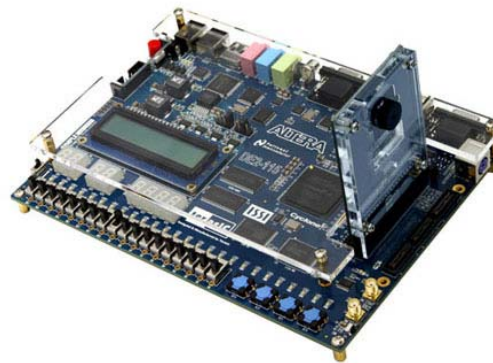

Figure 1.3 Connect the D5M to DE2-115 board's expansion port
2. Connect the D5M to your DE2-115 board as shown in Figure 1.3.